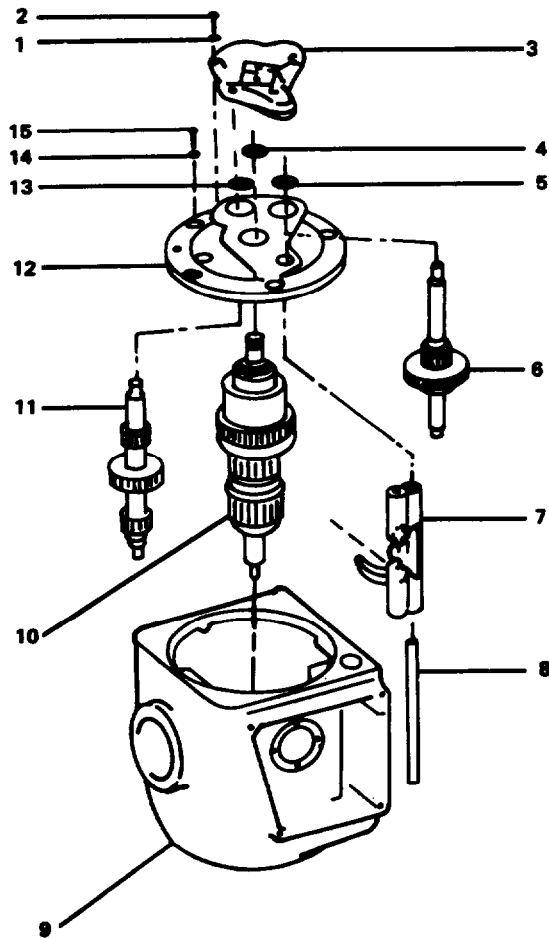

FIGURE 2-49. Electrical Food Mechanical Transmission.
- a. Install motor (16) on transmission (13) and attach with capscrews (15).
- b. Install motor housing (3) and attach with nut (14).
- c. Install cover plate (5) and attach with machine screw (4).
- d. Install top cover (2) and attach with machine screw (1).
- e. Install stop timer (9).
- g. Install identification plate (10) and attach with machine screw (11).
- h. Install manual control level (8), retaining ring (7), and plug (6).
- i. Install drain plug (12).
**2-58. Replace Mechanical Transmission Internal Components. (FIGURE 2-49)**